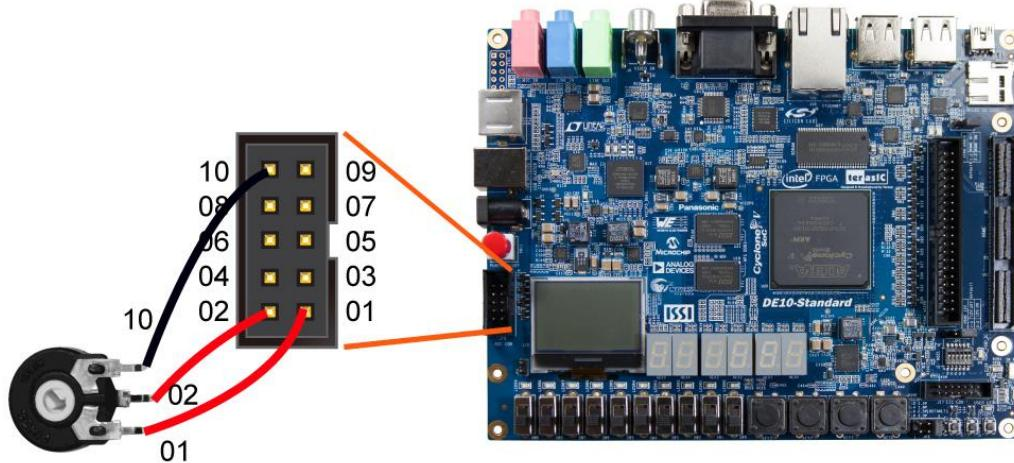

Figure 5-25 Hardware setup for the ADC reading demonstration
- Connect the trimmer to corresponding ADC channel on the 2x5 header, as shown in Figure 5-25, as well as the +5V and GND signals. The setup shown above is connected to ADC channel 0.